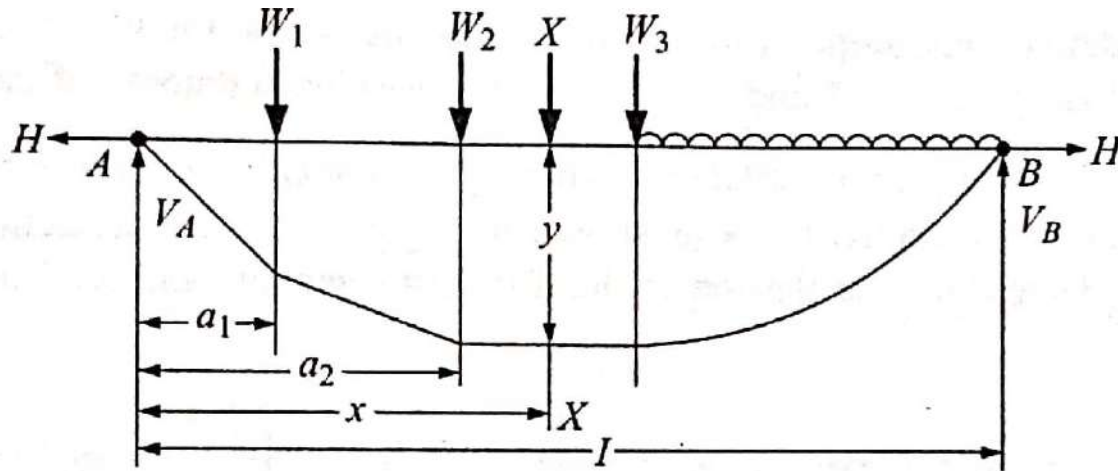

Figure 4: Equilibrium of Cable
- Consider the cable shown in Figure 4, which is subjected to various loads.